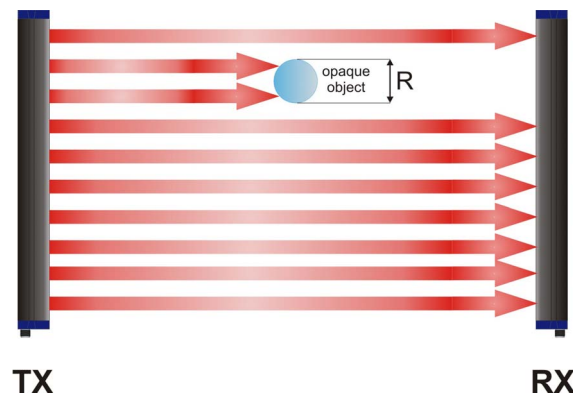

Fig. 8
- This mode can be used both for the detection of objects as well as the dimensional measurement (this measurement is supplied to the operator by the analog output 0-10V). The minimum object that can be detected has to be ≥ 6 mm (that represents the minimum resolution (R), Fig.8, of the device in this mode).